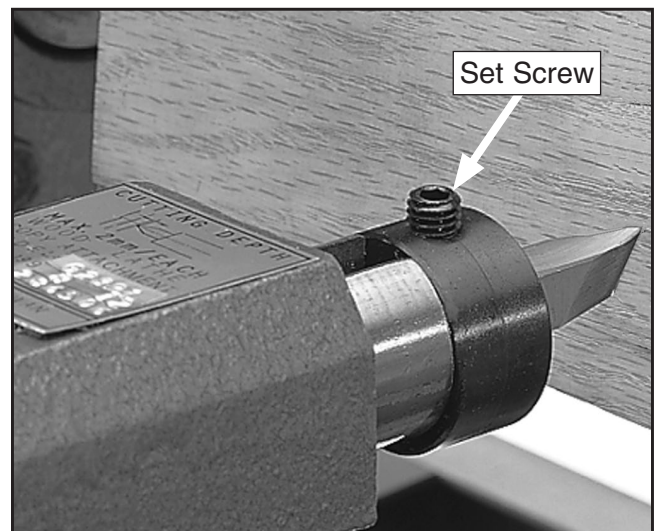

Figure 16. Example of proper position for cutting tool.
1. Loosen M8-1.25 x 16 set screw on cutting tool collar shown in **Figure 16**.
2. Insert cutting tool with triangular cutting edge facing up (see **Figure 16**), then tighten set screw.